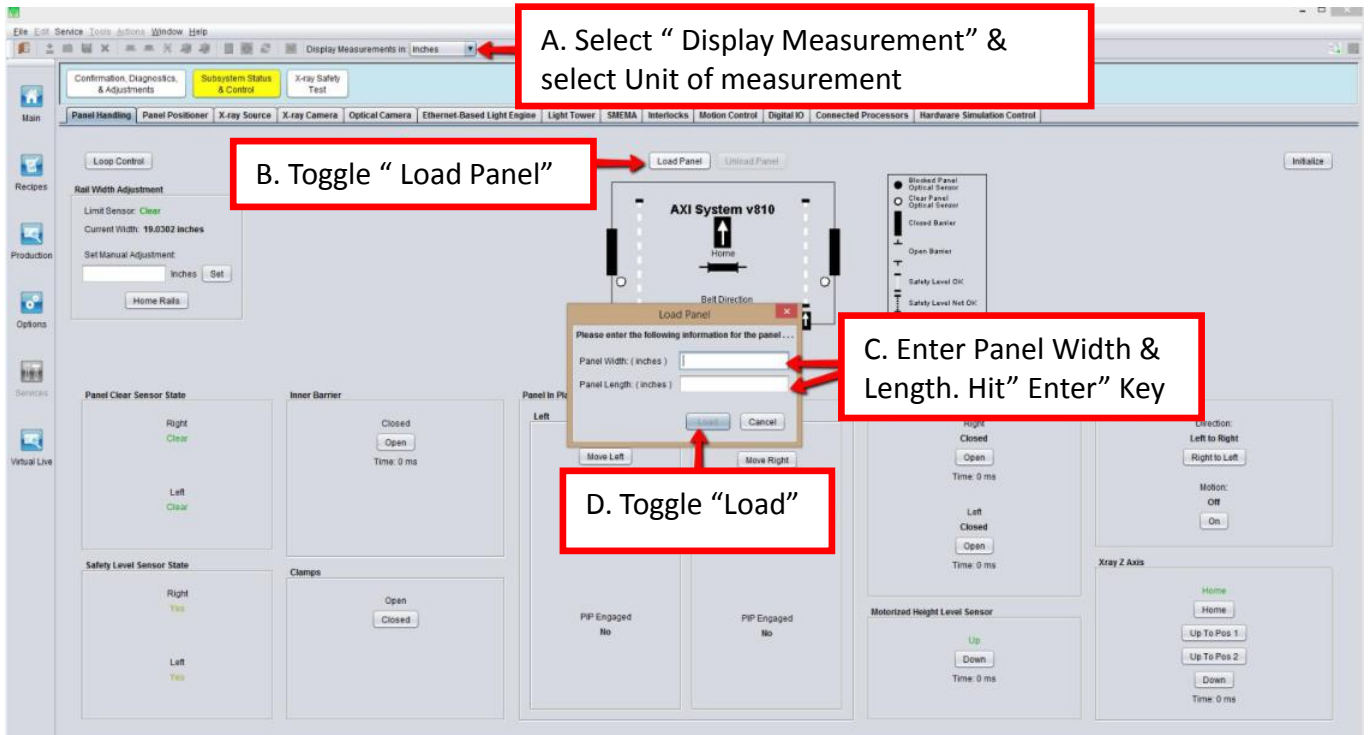

Figure 20 Panel Handling
16. Set the parameters as shown in the Figure 20 and click Load Panel.